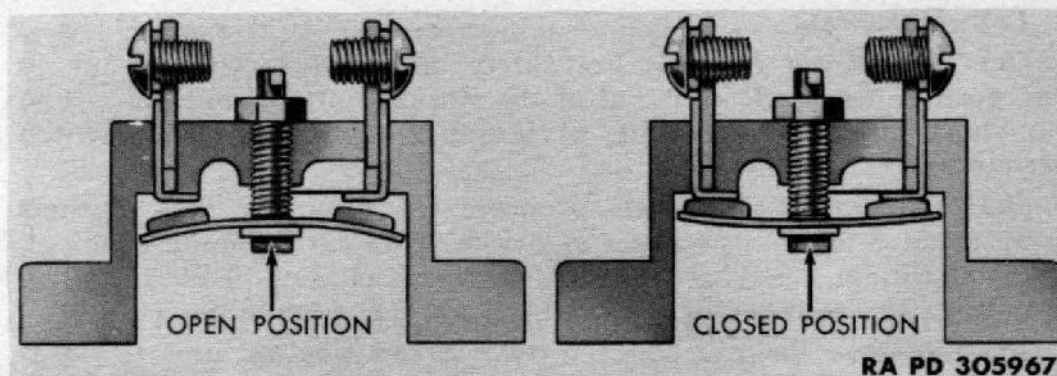

Figure 158—Circuit Breaker—Open and Closed Position
a. Description. The lighting system is protected by circuit breakers. In the closed position (fig. 158), a snap-acting disk bridges
two terminals thereby maintaining a circuit. At predetermined overloads, the resistance heat caused by current passing through disk snaps disk into reverse position, opening contacts and breaking circuit (fig. 158). A short time after opening, disk automatically closes and re-establishes a circuit. If overload conditions still exist, breaker automatically reopens. If overload conditions are corrected, breaker remains closed.